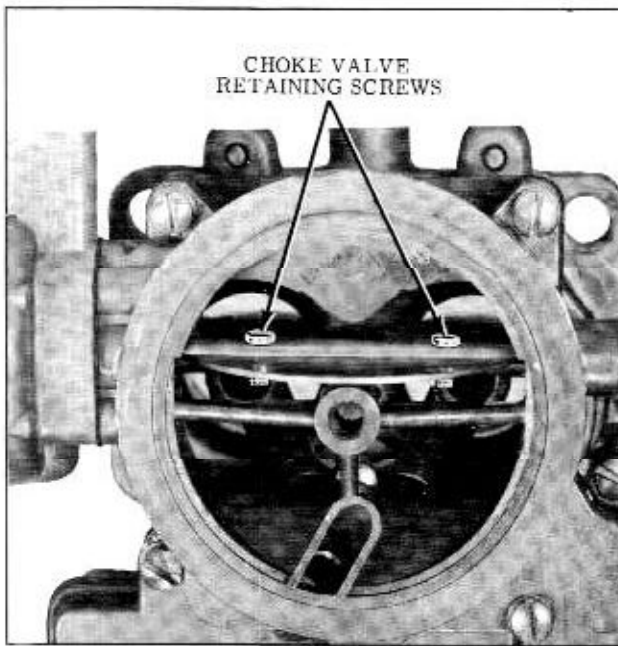

Fig. 8-73 Choke Valve and Shaft
14. Remove 2 choke valve retaining screws (file off staked ends). Remove choke valve. (Fig. 8-73)